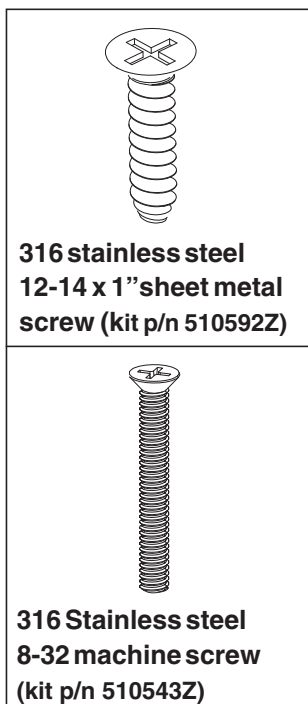

Figure 1
- Install a gasket under and on top of the vinyl liner. Align the gasket and face ring screw holes. Secure the face ring on the top gasket with the eight (8) 316 12-14 x 1" sheet metal self-tapping screws (provided), see Fig. 1. Using a No. 2 Philips head screwdriver, tighten each retaining screw to a **torque value of 10.00 (minimum) to 15.0 (maximum) in-lbs** to secure the face ring and gaskets on the sump. DO NOT OVER TIGHTEN THE SCREWS. DO NOT ASSEMBLE WITH POWER TOOLS.
**⚠ WARNING** ONLY USE THE 316 STAINLESS STEEL 8-32 MACHINE SCREWS (SEE FIG. 1) PROVIDED. SUBSTITUTE SCREWS SUCH AS MASONRY SCREWS, SHEET ROCK SCREWS OR OTHER TYPES OF SCREWS SHOULD NEVER BE USED, WILL CAUSE THE COVER TO COME LOOSE AND COULD RESULT IN LIMB OR BODY ENTRAPMENT, HAIR ENTANGLEMENT OR EVISCERATION/DISEMBOWELMENT.
- Remove the eight (8) face ring screws securing the face ring. Discard the face ring and screws.